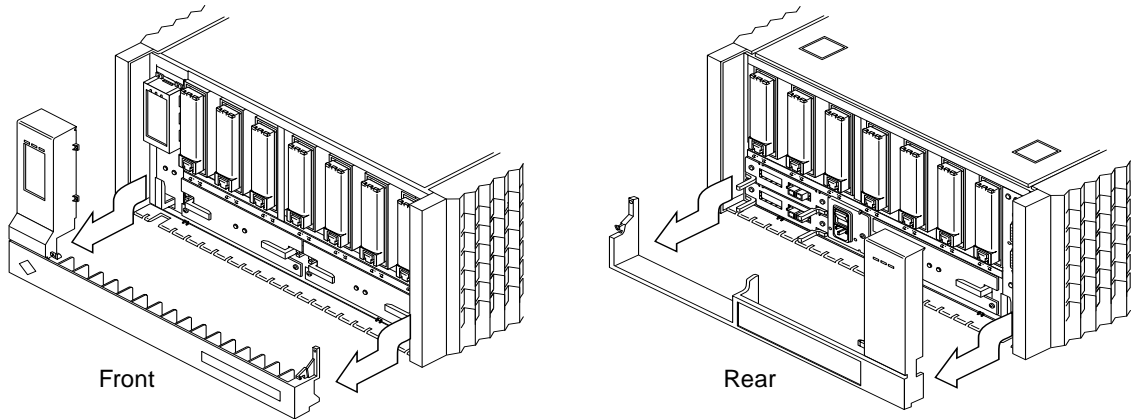

FIGURE 7-9 Removing a Door Panel Assembly
3. Rotate the panel assembly down and lift it off the bottom panel (FIGURE 7-9).